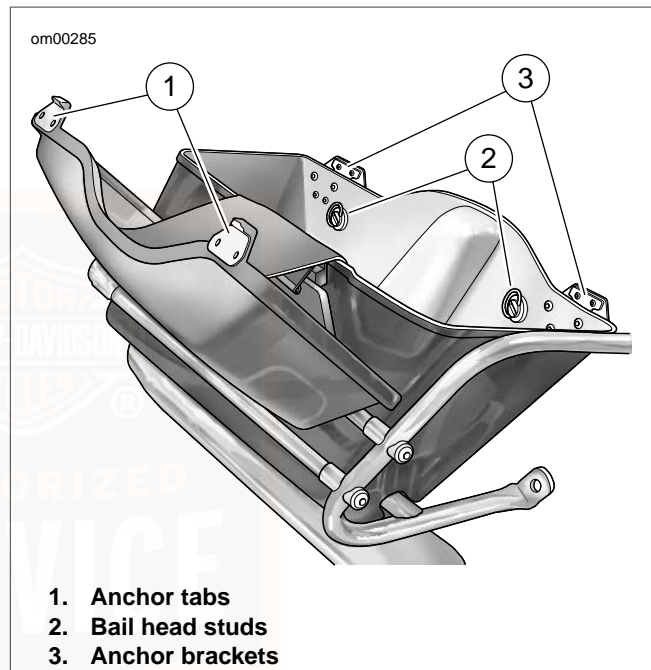

Figure 15. Bail Head Studs
See Figure 15. The saddlebags are secured to the support brackets by 1/4 turn fasteners called bail head studs.
1. See Figure 15. Fasten studs by pushing into support bracket fasteners and turning 1/4 turn clockwise.